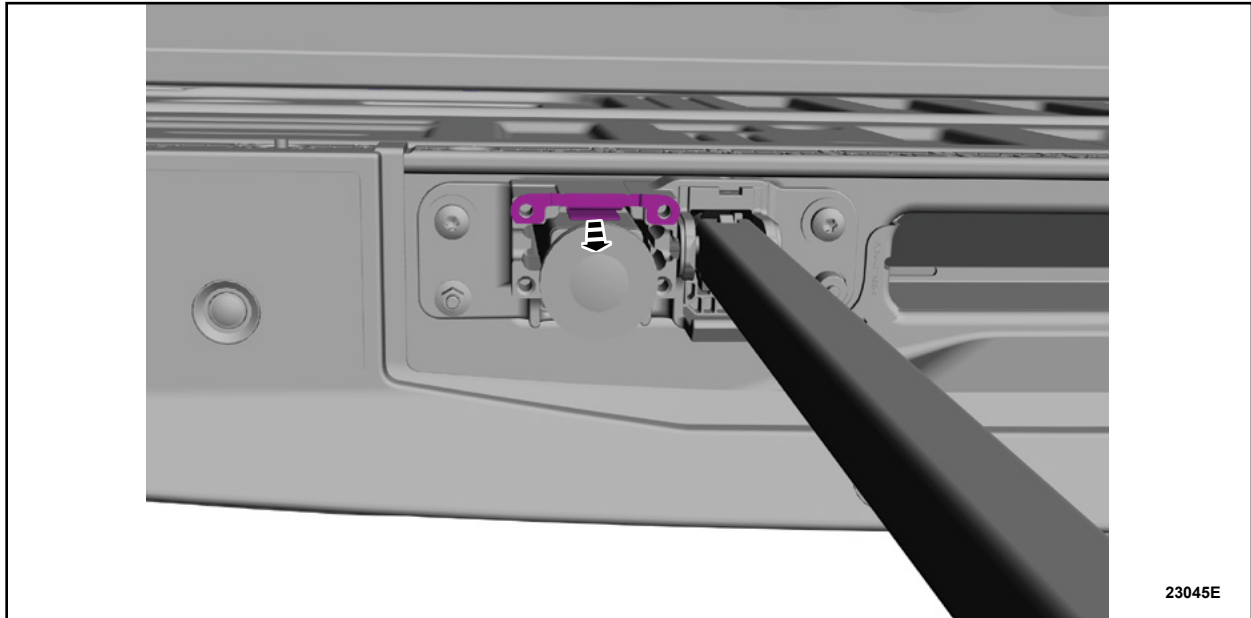

FIGURE 6
3. Slide out cover spring plate. See Figure 6.